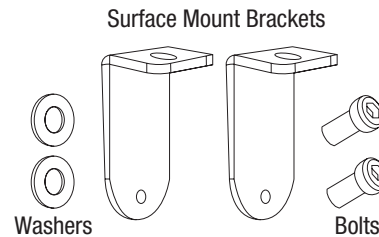

Figure 1
1. Attach surface mount brackets to the luminaire (**Figure 1**).